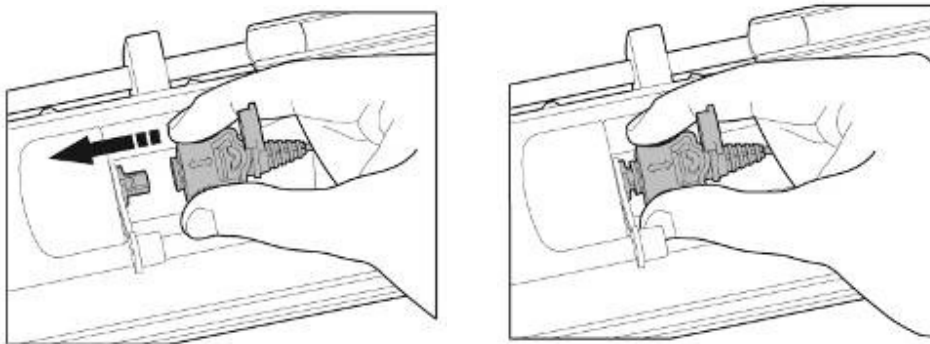

Figure 6: Connecting the Earset
- Plug the earset into the detector as shown in Figure 6.